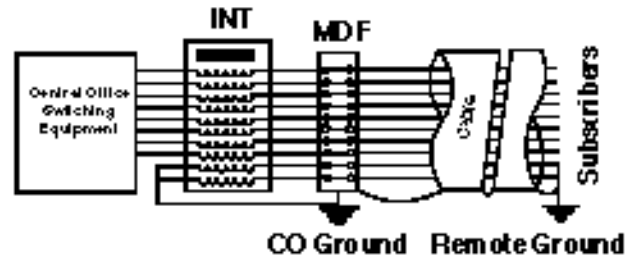
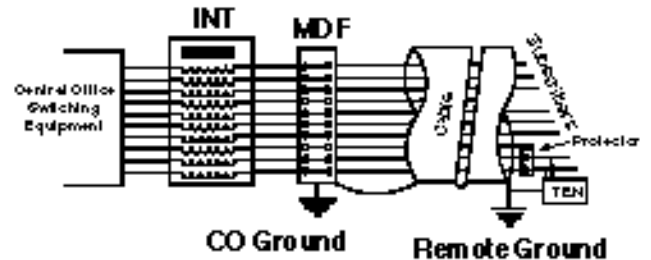

Figure 13: CO Located INT in Subscriber's Loop Cable with Dedicated Exciting Pair
Figure 14: CO Located INT in Subscriber's Loop Cable with SNC TEN Providing Exciting Current Path at Remote End
7.03 Figure 13 shows a CO located INT with a dedicated exciting pair connected to remote ground. Figure 14 shows a CO located INT with a Transformer Exciting Network (TEN) connected to a working subscriber's line providing the remote path-to-ground.
**Note:** The most consistent performance of an INT is obtained when using the arrangements shown in Figures 13 and 14.
**7.06** If there is significant exposure to more than one power line influence or more consistent performance of the INT is desired, it may be best to use a dedicated pair for the exciting current path-to-ground, as shown in Figure 13. The remote exciting pair ground, in this case, should be located at a point half way between the major power line influence.